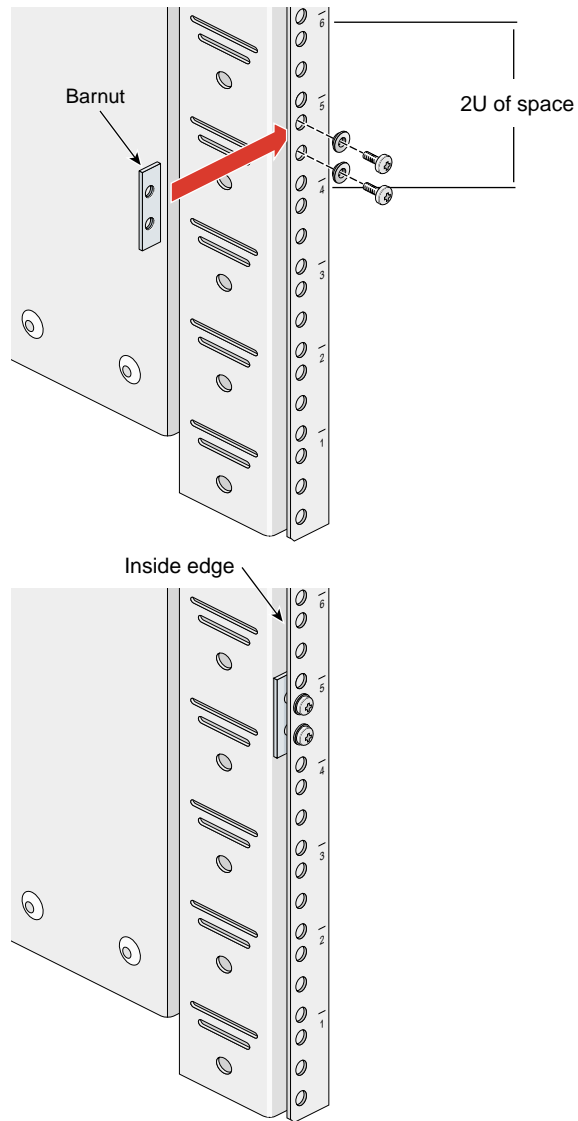

Figure 1-16 Placing the Barnuts on the Rack Rails
2. Place one of the barnuts inside the rack and align it with the second and third holes of the selected 2U of space (see Figure 1-16).
Note: The holes in the barnuts are not centered. The barnuts need to be placed in such a way that the holes are closest to the inside edge of the rack rails. See Figure 1-16.